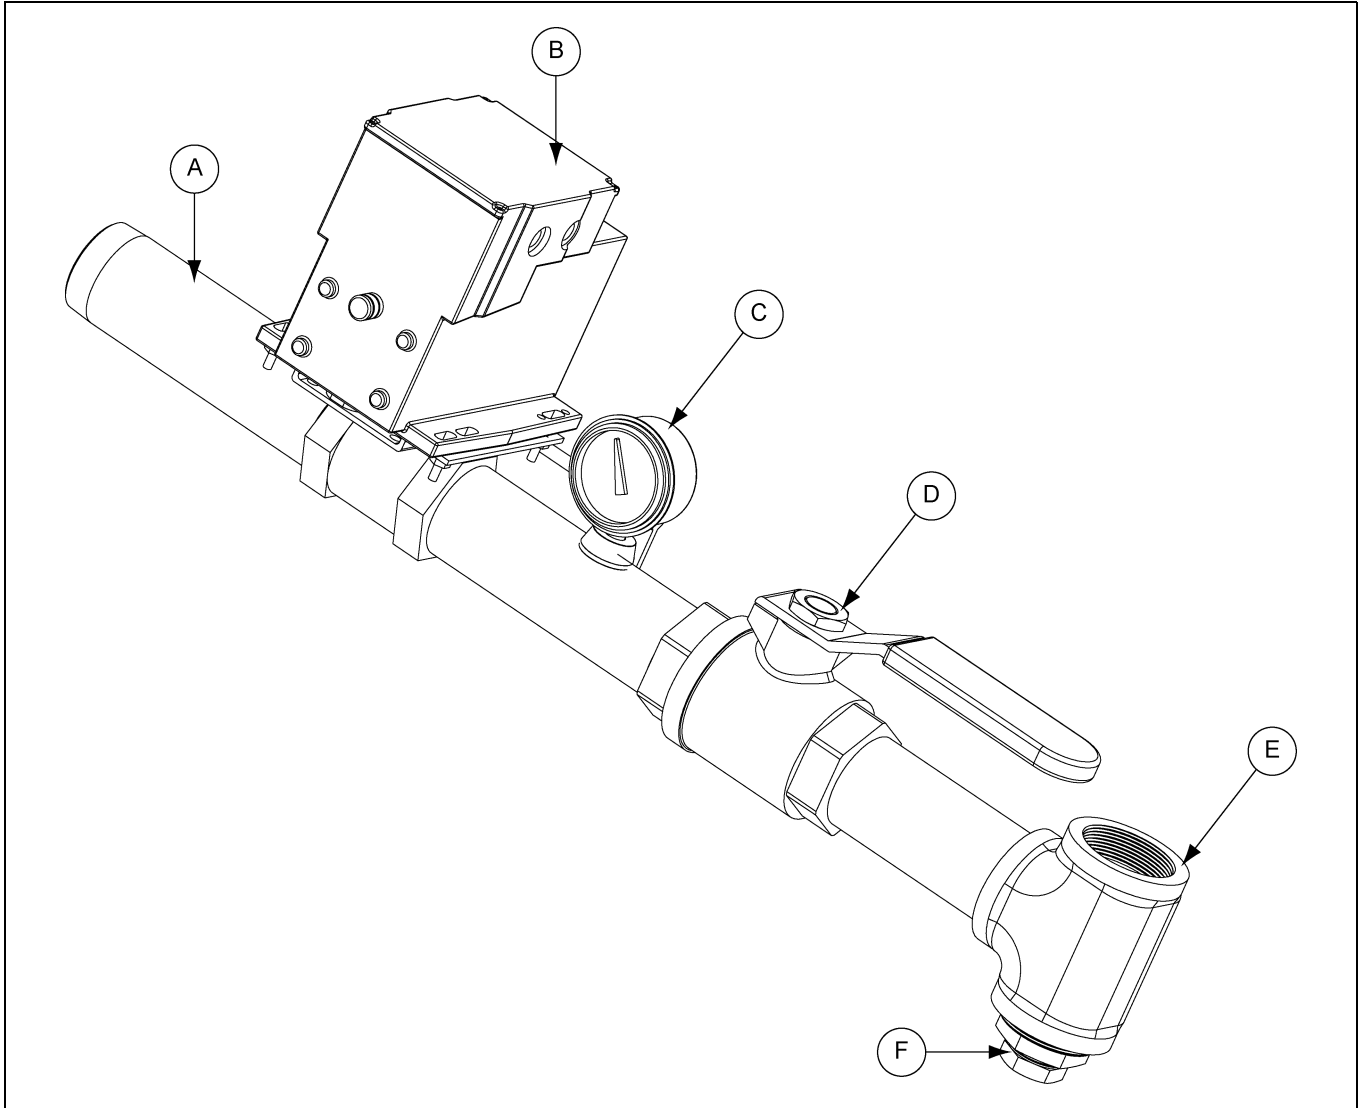

Figure 71 Modulator Section (Modulating motor not shown.)
- h. When the plenum reaches set point, adjust the MINIMUM setting on the modulating valve *(See Figure 71 on Page 53)* to the required setting. *(See Table on Page 21.)*